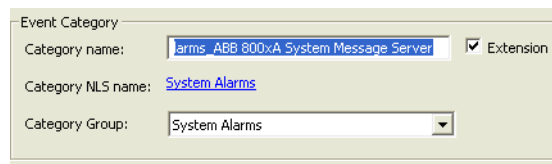

Figure 172. Category Mapping - Attribute Extension
3. Select the **Extension** check box, refer to Figure 172.